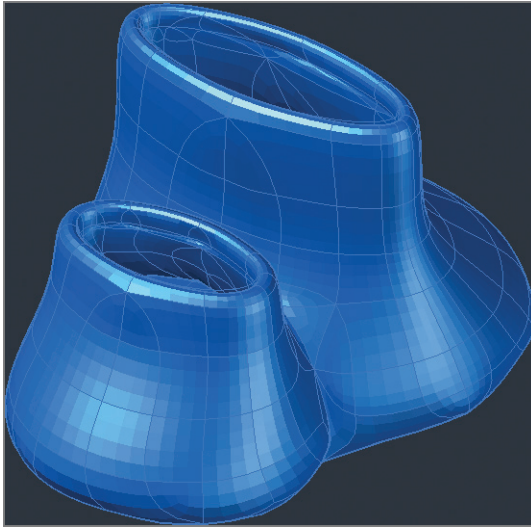

FIGURE 17.30 Smoothing the ventilation towers mesh again
4. Select the Smooth More tool on the Mesh panel, select the ventilation tower mesh, and press Enter. The mesh is subdivided and the result looks smoother (see Figure 17.30).